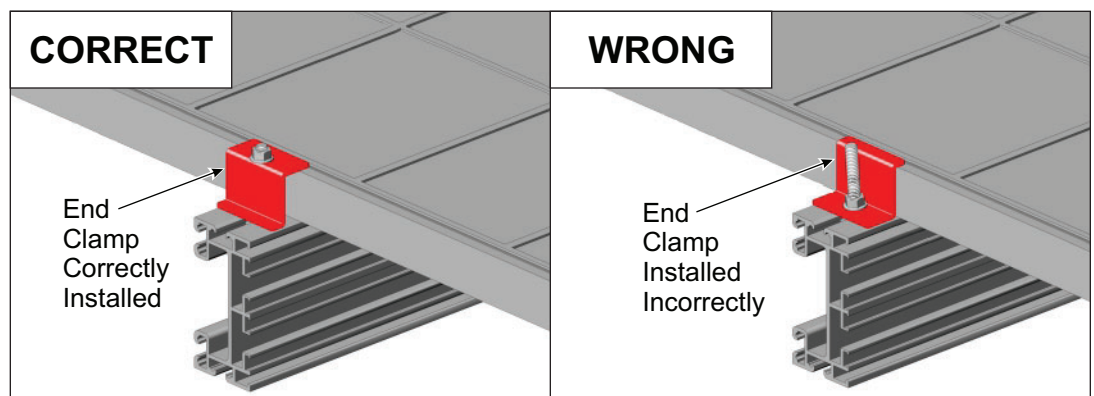
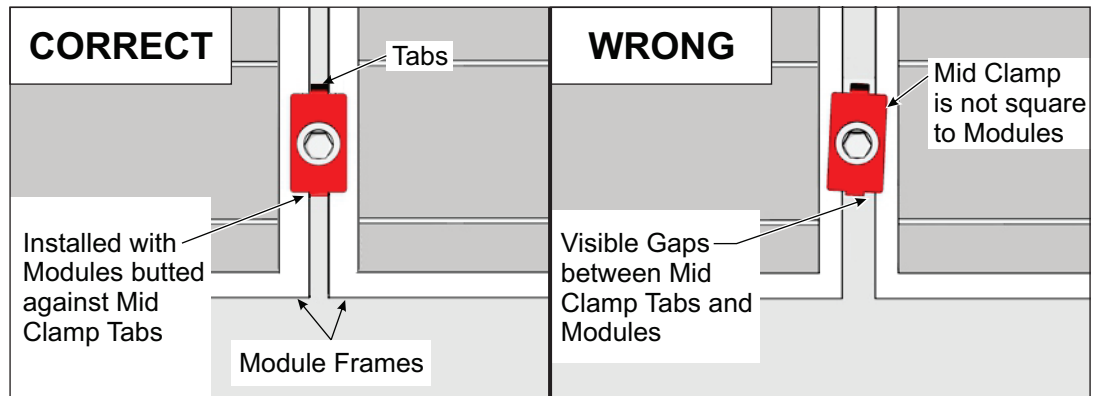

Figure 5-1: Correct and Wrong methods of installing an End Clamp
Figure 5-2: Correct and Wrong methods of installing a Mid Clamp
There is only one correct method of installing End Clamps and Mid Clamps. Failure to follow the correct method could lead to personal injury, structural failure, and/or damaged components. See Figure 5-1 for proper method of installation for an End Clamp and Figure 5-2 for the Mid Clamp. Refer to these figures during the installation of the Modules to prevent any undue problems associated with an improper installation.
- B. Insert one 5/16" x 2, 2-1/4, 2-1/2 or 2-3/4" carriage bolt into the top slot of the Power Rail. Push the bolt against the side of the module frame. Install End Clamp onto bolt and secure with 5/16" flange nut. **Torque to 14-16 ft.-lbs.** (See Figures 5-1 and 5-3)
- E. Push Modules against Mid Clamp tabs and secure Mid Clamp with 5/16" flange nut. **Torque to 14-16 ft.-lbs.** (See Figures 5-2 and 5-5)
- B. Insert one 5/16" x 2, 2-1/4, 2-1/2 or 2-3/4" RAD bolt into the top slot of the Power Rail. Push the bolt against the side of the module frame and twist to lock in place. Install End Clamp onto bolt and secure with 5/16" flange nut. **Torque to 14-16 ft.-lbs.** (See Figures 5-1 and 5-6)
- F. Push Modules against Mid Clamp tabs and secure Mid Clamp with 5/16" flange nut. **Torque to 14-16 ft.-lbs.** (See Figures 5-2 and 5-7)